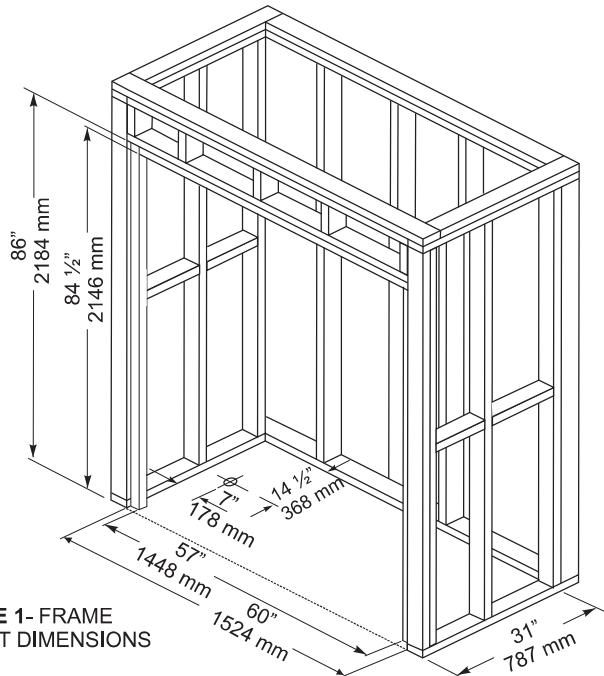
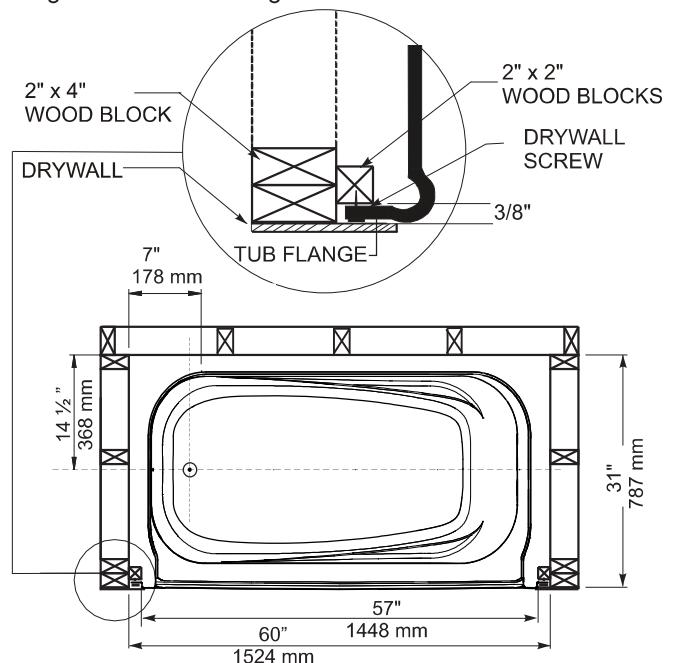

FIGURE 1- FRAME LAYOUT DIMENSIONS
FIGURE 2 - BATHTUB DIMENSIONS
- The Tub Shower is to fit into the framed alcove as shown in Figure 1 and Figure 2.
- Inside dimension of the studded alcove are to be as specified in Figure 1.
- Follow Figure 2 as specified to ensure width is 57" between the 2" x 2" recessed studs. (See enlarged detail.)
- Build solid framing to the dimensions in Figure 1.